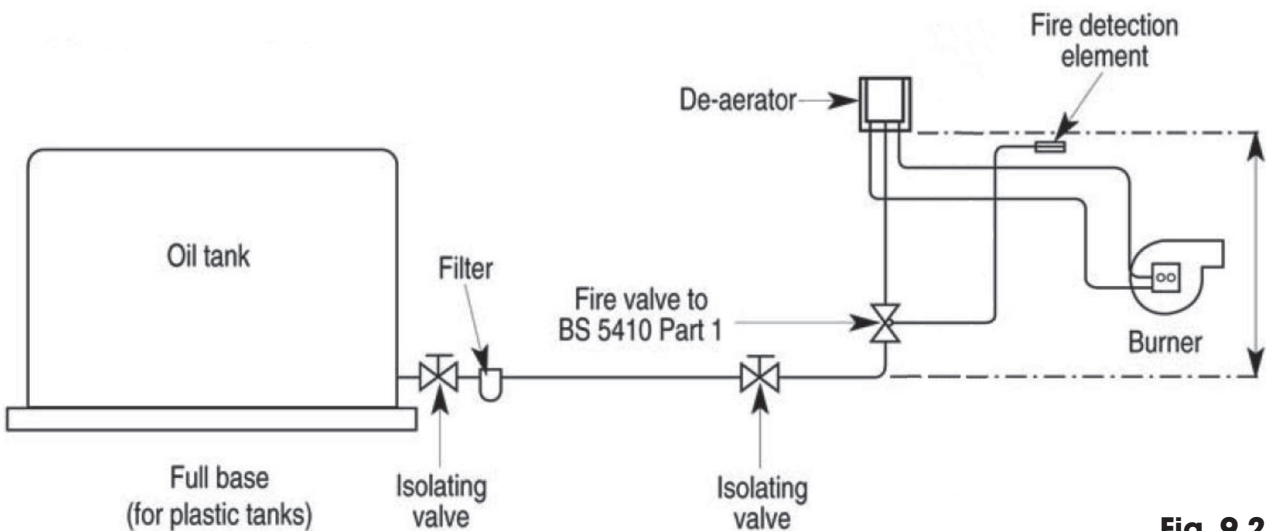

Fig. 9.2
- Fit the filter to the supply pipeline between two isolation valves before the fire valve and de-aerator. Connect the flexible oil lines from the de-aerator, to the burner pump (ensure that the flow and return and connected onto the pump correctly. (see Fig 9.2 below).